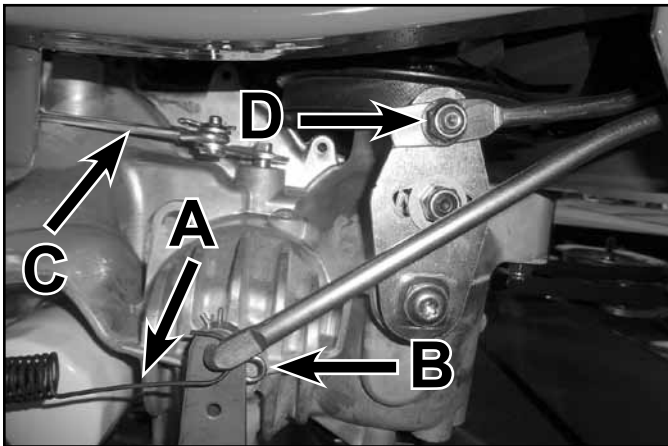

Fig. 071
4. Remove the parking brake return spring (A) from the rod and spring plate.
5. Remove the retaining pin (B) from the brake linkage then remove the brake rod from the hydro arm.
6. Remove the hydro bypass rod (C), retaining clip, and washer then remove the rod from the unit.
7. Remove the hydro control rod nut and bolt (D) (Fig. 071).